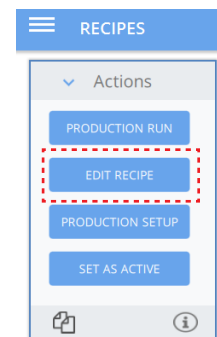

Figure 7: EDIT RECIPE
5. Return to Recipe screen, select EDIT RECIPE (see Figure 7) and then SAVE